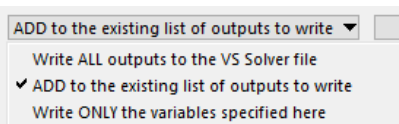

Figure 4. Options for activating output variables for writing.
- ① Drop-down control with three options for how the variables referenced on this screen interact with other settings involving output variables that might be written to the native output file (Figure 4).